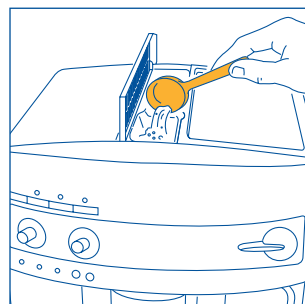

Fig.19
2. Lift the lid in the center, place one measuring scoop of ground coffee in the funnel (see fig. 19) and proceed as described in section 5.